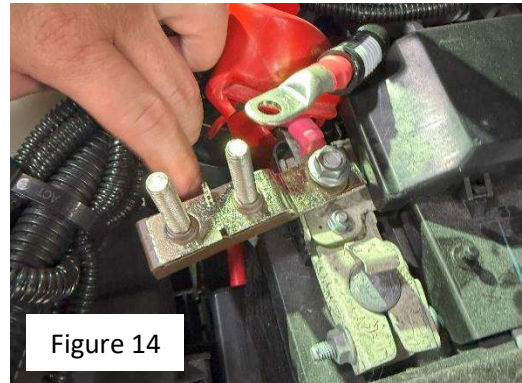

Figure 14
12. Place the supplied double fuse holder on the stud, place red wire on top, and then attach with the removed washer and nut (Figure 14)